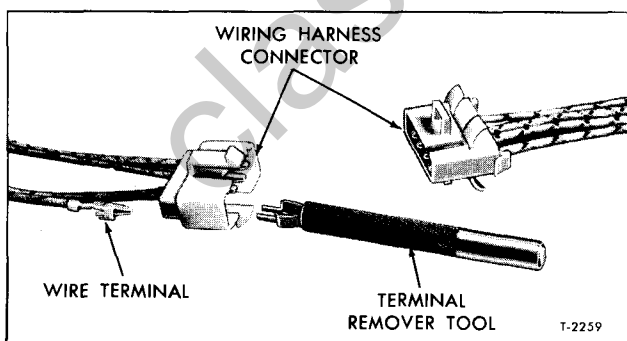

Figure 2—Removing Twin Lock Type Connector Terminals
2. To remove a twin lock type terminal from connector, disengage the lock tangs and separate connector. Insert terminal remover (J-21091) or equivalent, as shown in figure 2 to disengage terminal locks from the connector. Pull wire and terminal from cable connector.